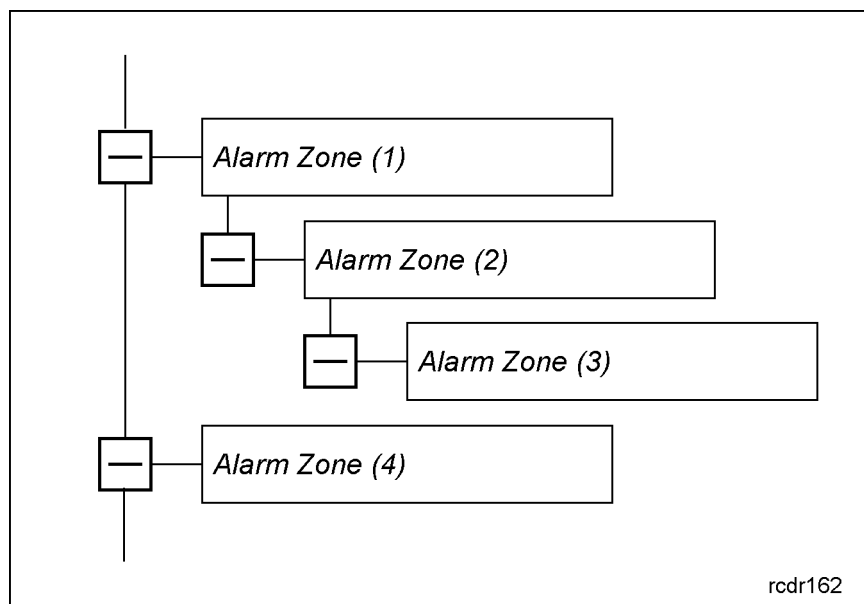

Fig. 8 Hierarchy of Alarm Zones
Alarm Zone hierarchy in RACS 4 system is arranged in tree structure, which reflects relationship and dependencies among them. In figure 8, there is shown example of Alarm Zone hierarchy.
Based on example shown in fig. 8, following dependencies can be specified: Alarm Zone (4) is independent of other zones; Alarm Zone (2) is dependent on Alarm Zone (1), while Alarm Zone (3) is dependent on Alarm Zone (2); Arming of Alarm Zone 1 results in arming of Alarm Zones (2) and (3), while arming of Alarm Zone (2) results in arming of Alarm Zone (3); Disarming of Alarm Zone (1) does not affect subordinate zones i.e. Alarm Zones (2) and (3).